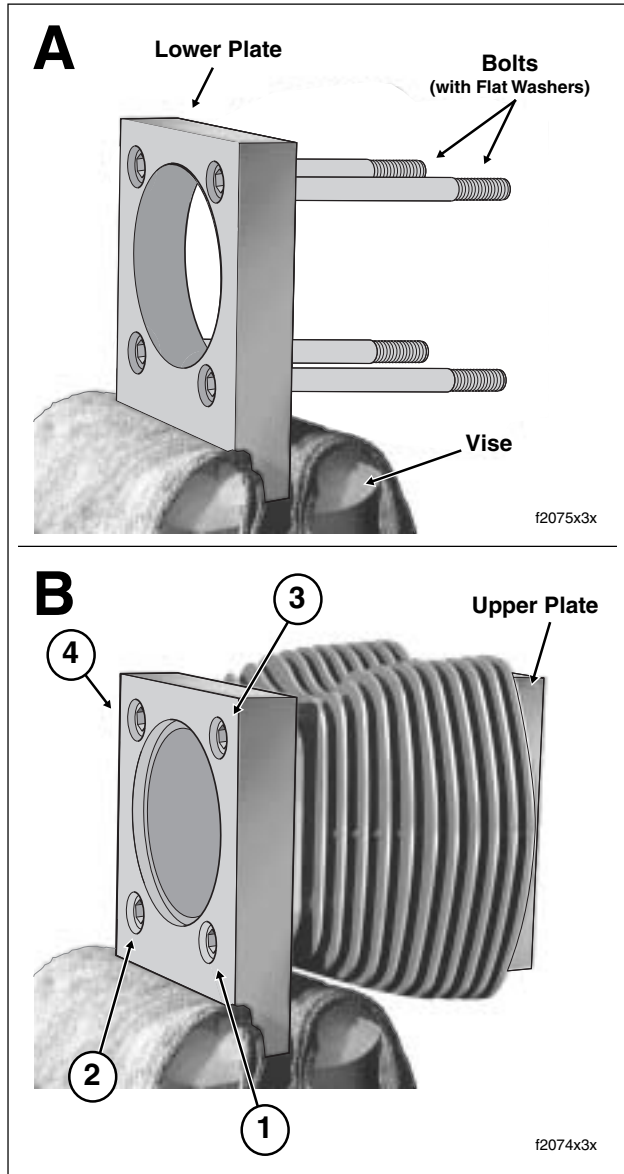

Figure 3-86. Install Cylinder to Torque Plates
- d. Slide four bolts (with flat washers) all the way through holes of lower plate until washers contact outboard side. See A of Figure 3-86.
- g. Tighten the bolts to 84-108 **in-lbs** (9.5-12.2 Nm) in the sequence shown in B of Figure 3-86.
- i. Using a grease pencil, mark a straight line on one of the bolts continuing the line over onto the lower plate. Repeat step for remaining three bolts. Using the marks as a guide, turn each bolt 1/4 turn or 90 degrees. Be sure to tighten the bolts in the sequence shown in B of Figure 3-86.